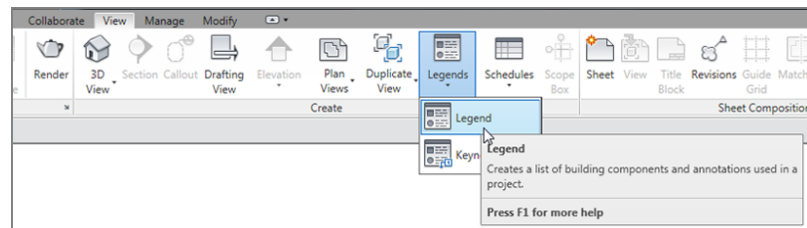

FIGURE 11.39: Click the Legends > Legend button on the View tab.
1. On the View tab, click the Legends > Legend button, as shown in Figure 11.39. You can also right-click Legends in the Project Browser and pick New Legend.